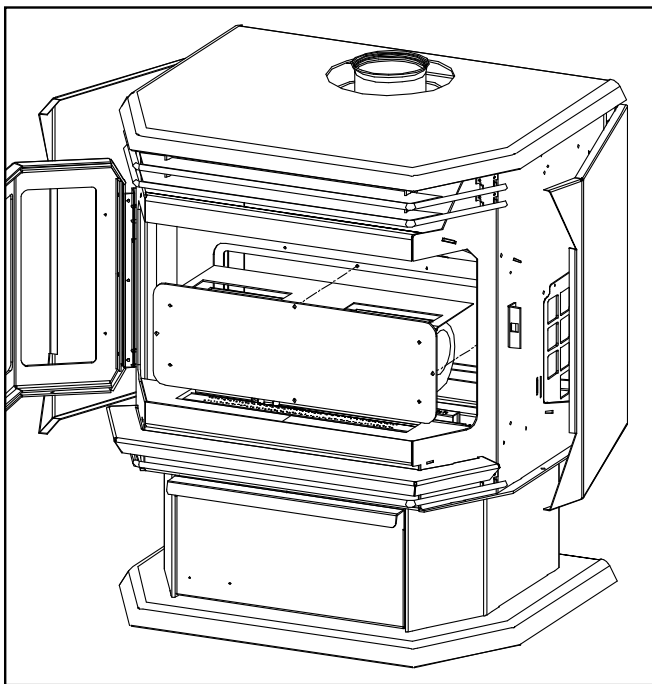

Figure 8: Blower (Fan) Removal.
3. Remove the four (4) $\frac{5}{16}$ " bolts that hold the blower mounting plate to the back firewall. Use a light lubricating oil on screws before removal.
5. Carefully pull the blower assembly into the firebox (see Figure 8). Install the blower onto the mounting bracket (blower outlets pointing through the two holes in the bracket) using the 4 screws provided.